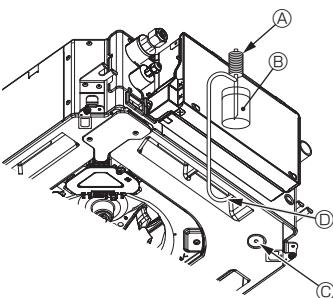

Fig. 6-9
6.3. Check of drainage (Fig. 6-9)